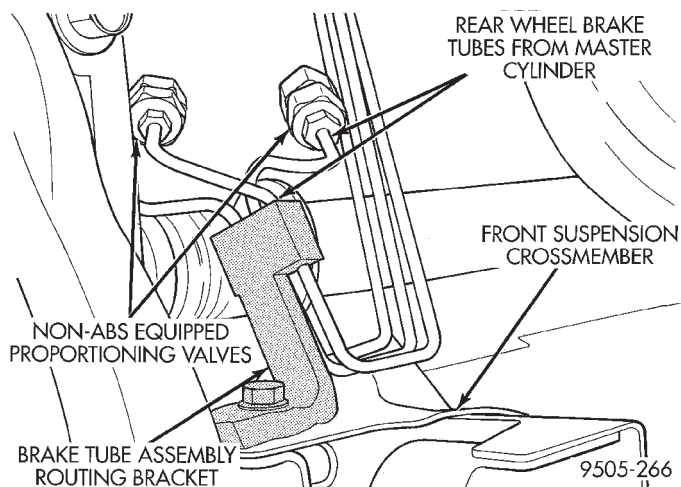

Fig. 118 Non-ABS Brake Proportioning Valve Location
(1) Remove hydraulic brake line (Fig. 118) from proportioning valve controlling the rear wheel of the vehicle which has premature wheel skid.
(2) Then remove the proportioning valve from the rear brake line.
(1) Install proportioning valve in rear brake line and hand tighten both tube nuts until they are fully seated in proportioning valve (Fig. 118).
(2) Tighten both brake line tube nuts at the proportioning valve to a torque of 17 N·m (145 in-lbs.).
(3) Bleed the affected brake line. See Bleeding Brake System in the Service Adjustments section of the manual for proper bleeding procedure